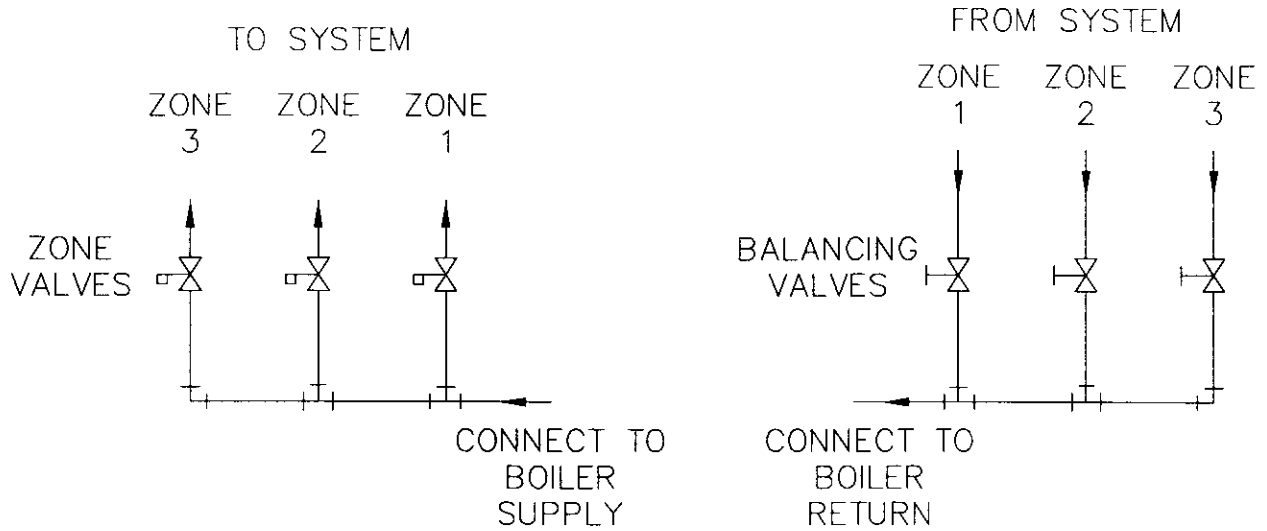

Figure 3: Zone Piping with Zone Valves
1. See Figures 3 and 4 for basic zoned system layouts.